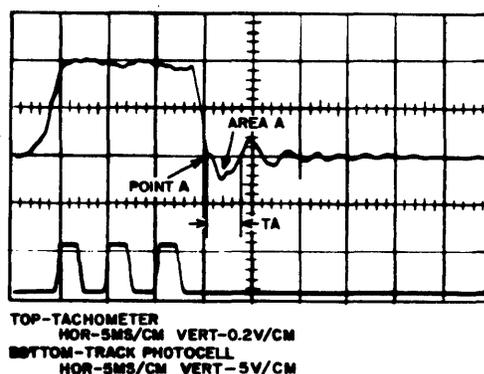

Figure 6-17. Tachometer Output (Forward Seek)
12. The forward stop pulse delay is the time between the trailing edge of the last track pulse and the leading edge of the stop pulse during a Forward seek. This delay times the dropping of the detent pawl with respect to the detent gear position. Figure 6-17 shows the tachometer output trace for a properly adjusted delay (point A is where the pawl should engage the gear and area A is the resulting carriage rebound caused by engagement). The pawl should not engage the gear before zero velocity is reached. The amplitude and duration of TA is primarily a function of the accuracy of the detent gear and the timing disk assembly. It is therefore necessary to inspect the operation at a minimum of three positions (approximately Tracks 09, 100, and 189).
- b. Adjust Y331 (D33) to make the trace approximate Figure 6-17, if required.
- e. If the optimum (Figure 6-17) tachometer output cannot be achieved, perform the procedures of step 14.